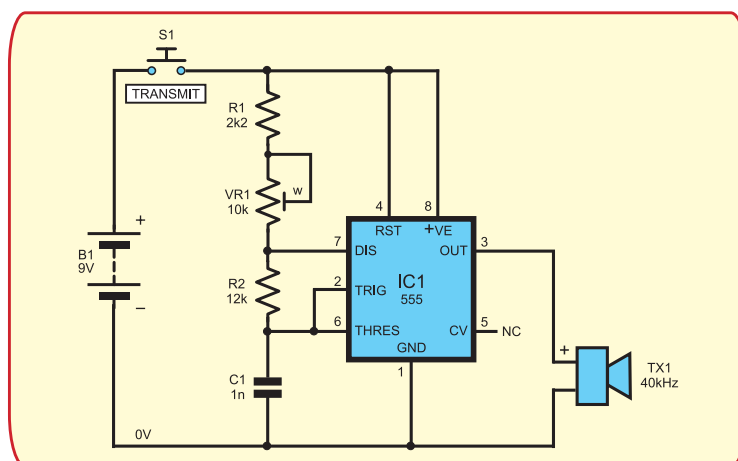

Fig.7.1. Circuit diagram for the Ultrasonic Transmitter
**T**HE Ultrasonic Transmitter circuit shown in Fig.7.1 generates ultrasonic sound waves at a frequency of 40kHz. The key component is a 555 timer, IC1, which is wired as an astable to produce an output frequency of 40kHz. This stream of electrical signals drives the ultrasonic transmitter transducer TX1.